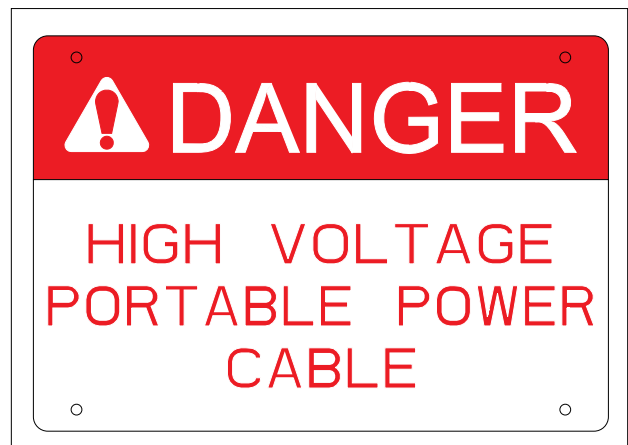

Figure 43-1 Danger Sign
1. Ensure that the danger signs are in place and visible at each end of the travel lane. See Figure 43-1.